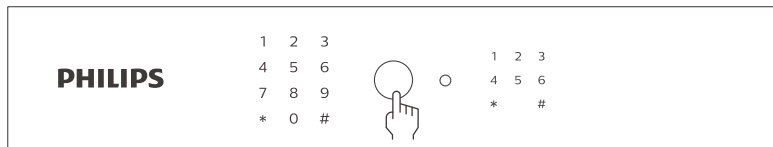

Figure 2
1. Open safe door and press "🔊" on the battery compartment. After hearing a voice prompt "Please enter fingerprint or PIN code", enter your fingerprint as shown in Figure 2.